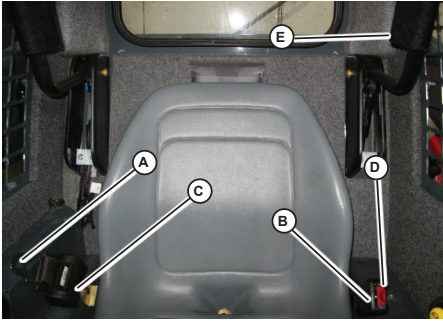

Fig. 18 - Seat Belt
Fasten the seat belt around your hips and waist and insert tongue (A, Fig. 18) into clasp (B) until it clicks securely in place. Slack in the seat belt should automatically retract into seat belt spool (C).
2. The restraint bar is in the raised position (E, Fig. 18).